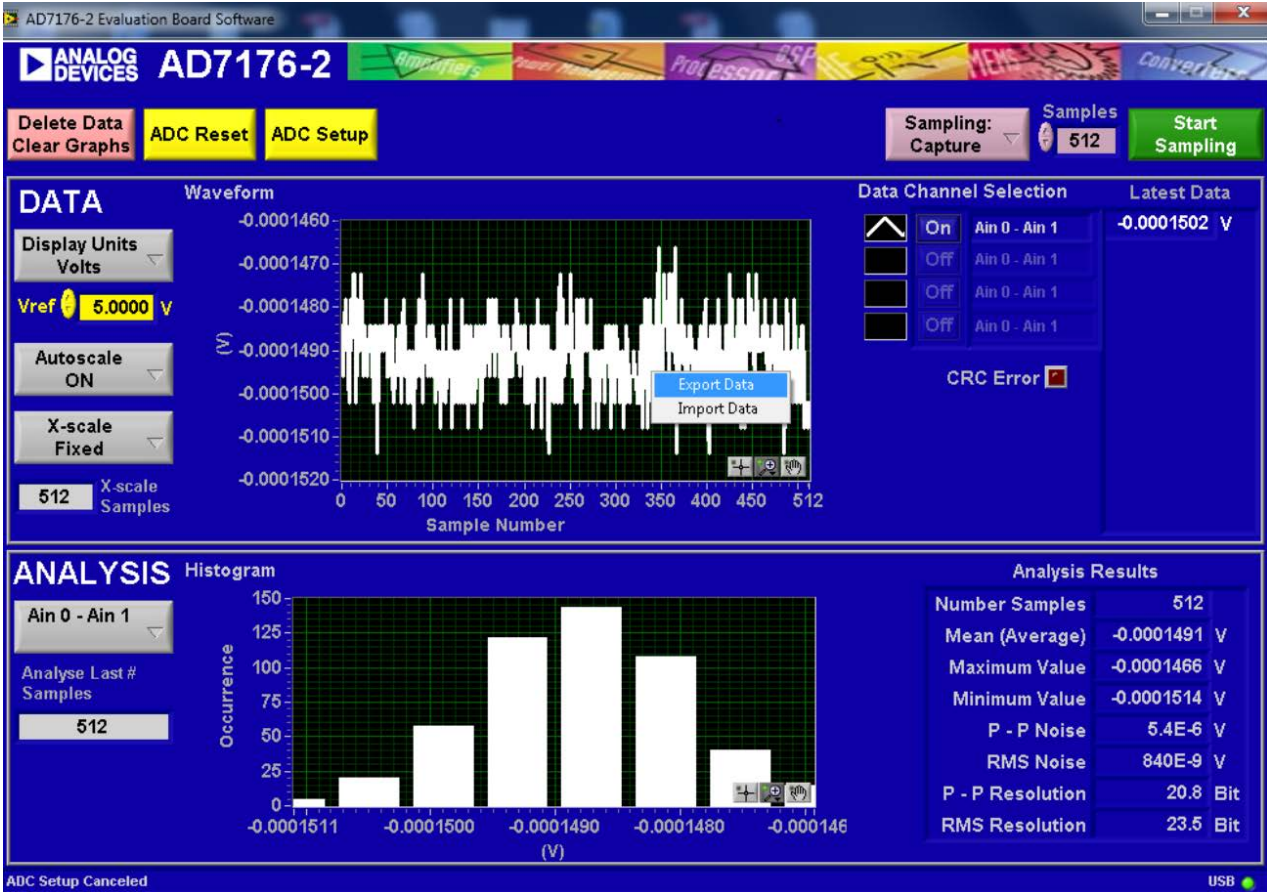

Figure 24. Exporting Data to Save Results
5. If desired, save the current captured data for later analysis (see Figure 24 and the Save File section).
The software can save the current captured data for later analysis (see Figure 24).